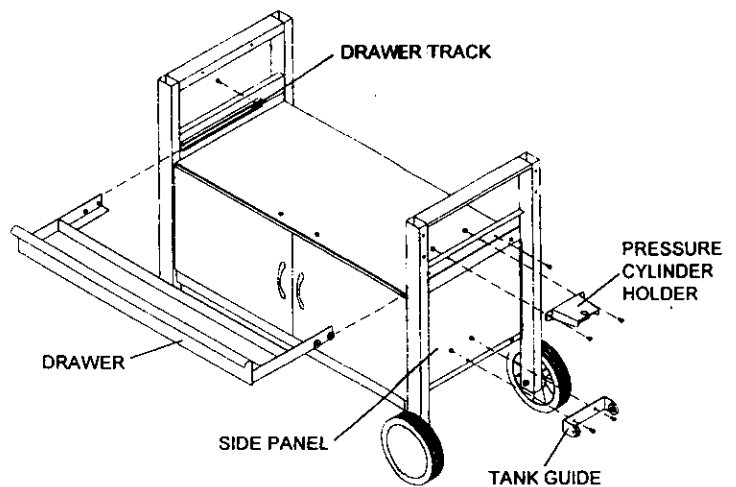

Figure 7
2. Slide the Drawer into the Drawer Tracks until it stops. See Fig. 7.
3. Install 2 of the 1/4"x1/2" Phillips head screws to the front of the Drawer Track. This important step prevents the drawer from being pulled outside the tracks. See Fig. 7.